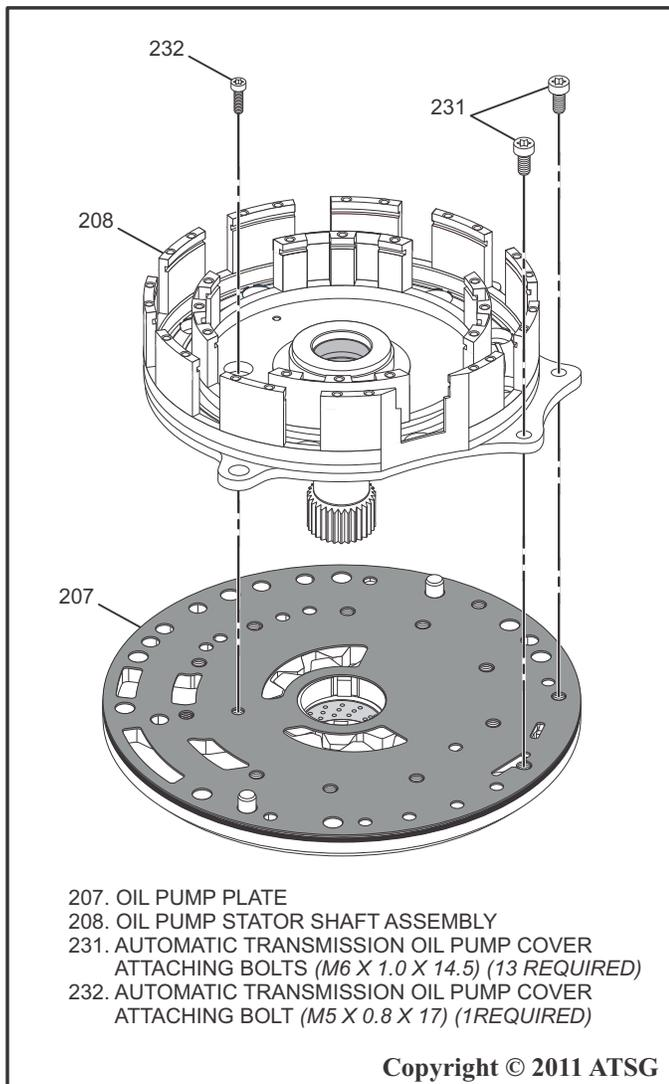

Figure 97
13. Remove the 13 (M6 x 1.0 x 14.5) oil pump cover attaching bolts as shown in Figure 97.
14. Remove the 1 (M5 x 0.8 x 17) oil pump cover attaching bolt as shown in Figure 97.
15. Carefully remove the Oil Pump Stator Shaft Assembly from the Oil Pump Body as shown in Figure 97.